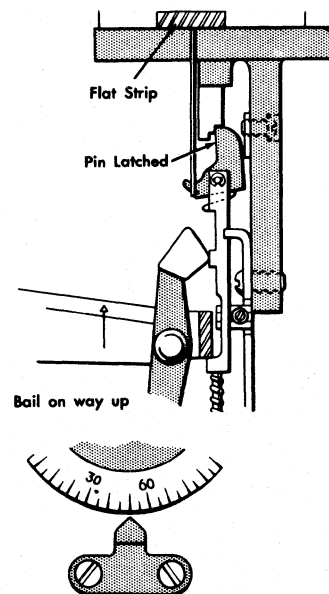

Figure 53. Drive Unit Timing
2. Hold a flat object over all verifying pin openings and turn index to 50°. Remove the object; pins should remain latched down (Figure 53).